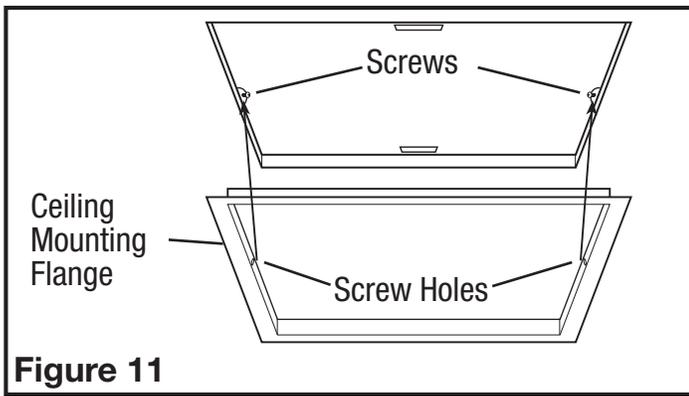

Figure 11
4. Install the ceiling mounting flange to cover any gaps which exist between the housing and the finished ceiling. Remove the two screws that connect the ceiling mounting flange to the housing. Put sealant (not provided) on inside edge of the ceiling mounting flange to ensure that the flange is sealed to the ceiling. Line up the screw holes in the ceiling mounting flange with the screw holes on the inside of the housing and press flange in place so it is tight against the ceiling. Reinstall ceiling flange mounting screws inside the housing (**Figure 11**).